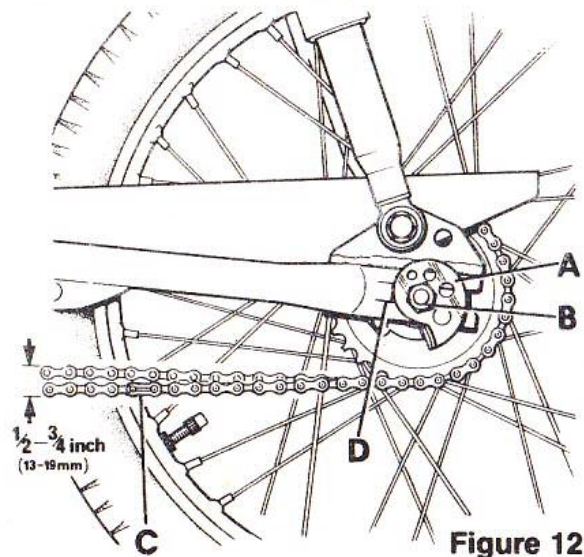

Figure 12
Support the moped on the stand, slacken both ends of the brake cable and disconnect at the wheel end. Remove the chain split link (C) Fig. 12 taking care not to let the chain run off the sprocket at the power unit. Slacken well but do not remove the axle nuts. Lean the moped to the left, still on the stand, angle the wheel slightly in the swinging fork to disengage the brake anchor and lift the wheel rearwards and to the right, clear of the swinging arm.
Maintain the rear chain at the correct tension to prevent snatching, excess chain and sprocket wear. Providing the chain is lubricated as on Page 17, chain tension should only require infrequent attention. Cam type adjusters (A) shown in Fig. 12 are used to move the wheel spindle along the fork end. To adjust, place machine on stand, slacken nuts (B) on both sides of the wheel and then rotate both adjusters (A) **by the same amount**, a little at a time until the free play (see Fig. 12) on the bottom run of the chain is between 13 mm ($\frac{1}{2}$ ") and 19 mm ($\frac{3}{4}$ ") at the midway point. Revolve wheel to ensure chain is adjusted at its tightest point. Ensure the adjusters rest on the abutment (D) and are in line with each other. Hold the adjusters in the correct position until the spindle nuts are fully tightened.